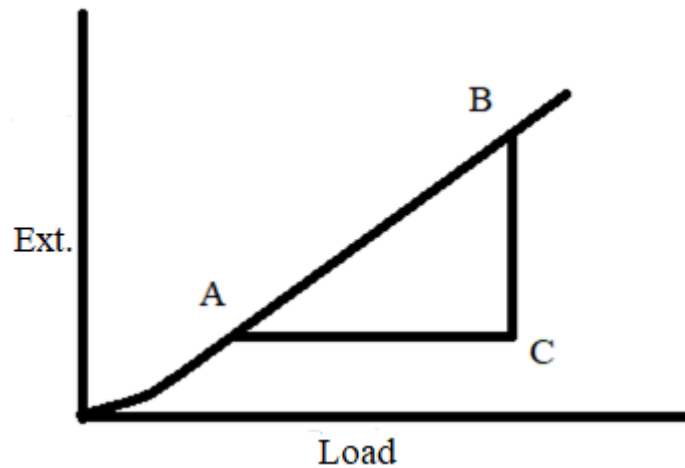

Fig. 2. Extension versus load
Procedure: The spring with scale pan attached is firmly clamped and the meter scale placed vertically so that the pointer moves lightly over it. Loads are added to the scale pan and the corresponding extensions of the spring are noted. The scale readings are also taken when unloading the spring, and the mean extension thus obtained. Plot a graph between the load and mean extension. Use equation (1) to determine slope 1 from figure 2.